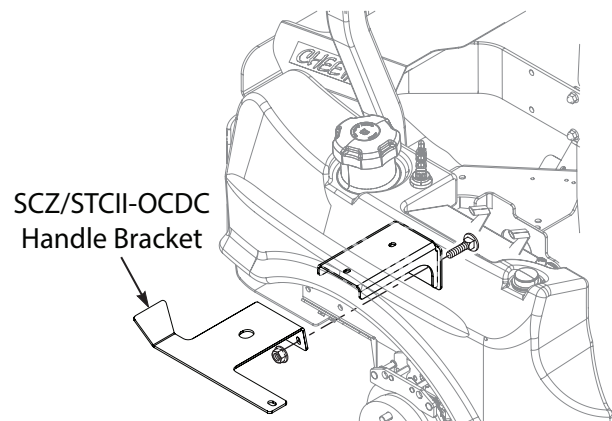

Figure 3-16. SCZ/STCII Handle Bracket Install
4. Install the OCDC handle bracket to the right hand fuel tanks mounting bracket as shown in Figure 3-16. Secure using two (2) 5/16-18 x 1" carriage bolts and two (2) 5/16-18 serrated flange nuts. See Figure 3-16.